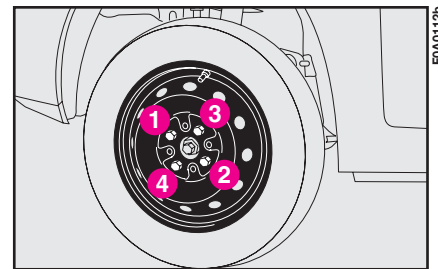

fig. 11
**19)** Fasten bolts completely, working in a criss-cross fashion as shown in fig. 11.